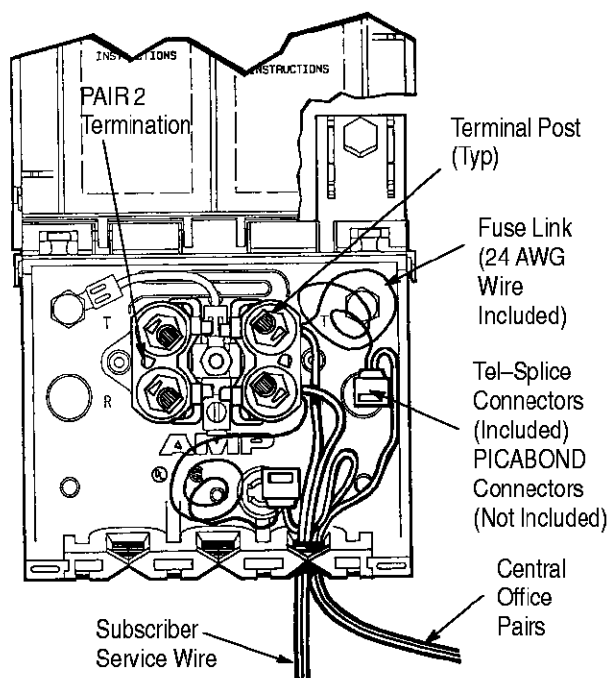

Figure 12
1. Splice the two fuse link 24 AWG wires (included with assembly) to the central office line pairs. Use Tel-Splice Connectors (included) or PICABOND* Connectors (not included). See Figure 12.